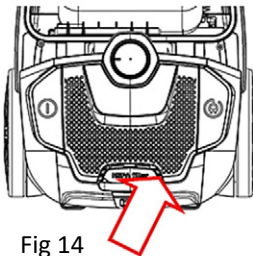

Fig 14
4. **Clean or Exchange the outlet Hepa filter:** Open the outlet cover and take out the HEPA frame and filter. Wash it and install it after the filter has fully dried (Fig 14 and 15).